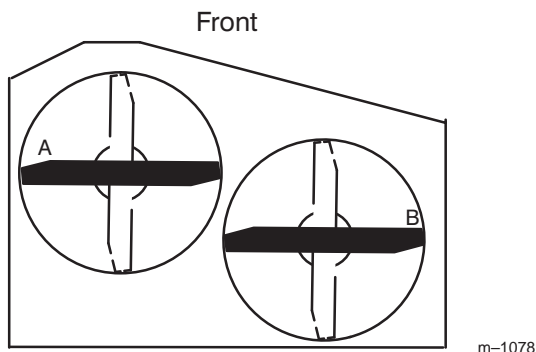
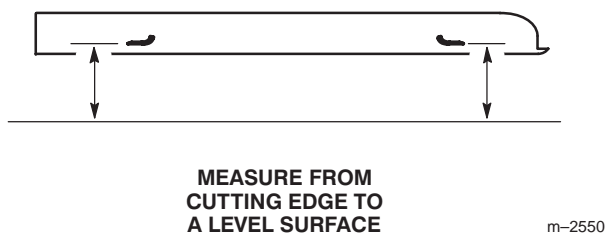

Figure 51
Figure 52
2. Position the blades side-to-side (Fig. 51). Measure at "A" and "B" locations (Fig. 51) from a level surface to the cutting edge of blade tips (Fig. 52).